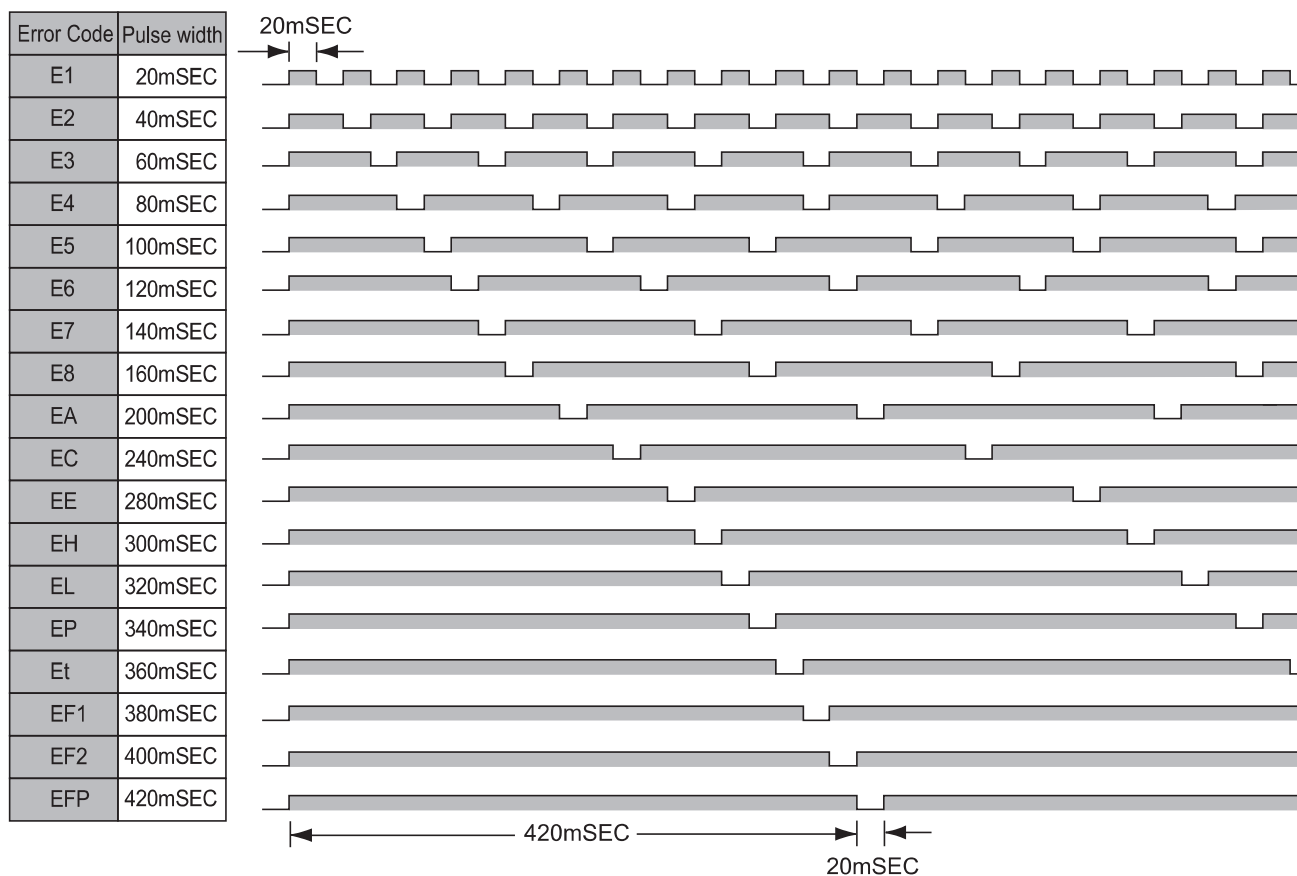

Fig. 37
When an error occurs, an error signal is output to the external Input / Output Connector A ③ (terminal No. 8: ERR). (Refer to Fig. 37.)